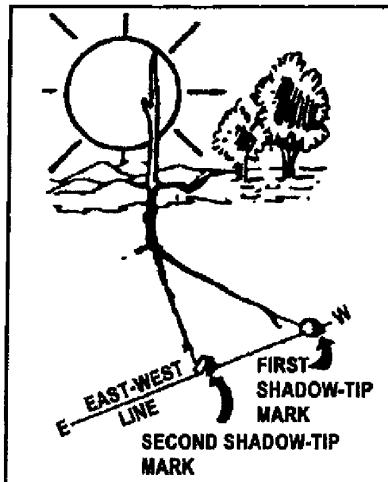

Figure C-42. East-west line
c. Draw a straight line through the two marks you made on the shadow tips. This line is an east-west line (figure C-42).